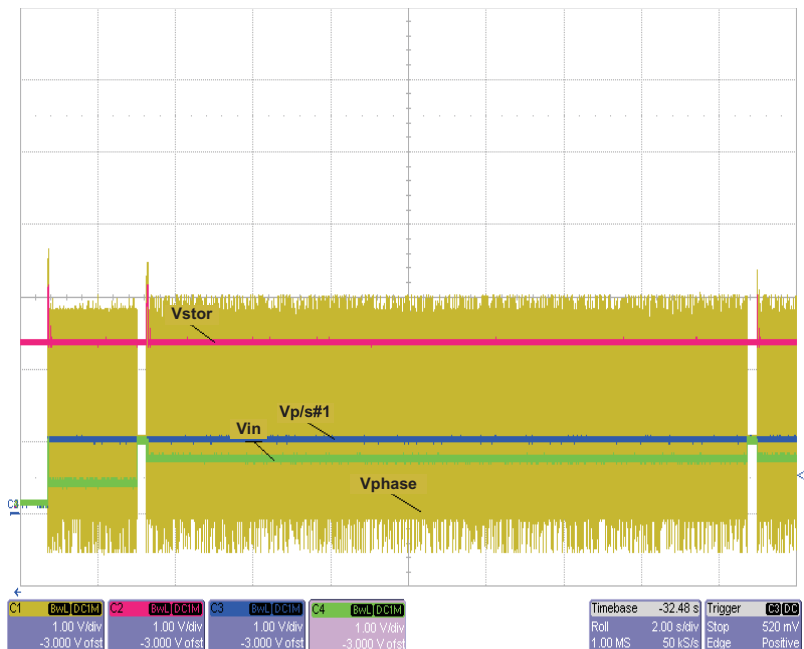

Figure 4. Powering up with a Battery above UV
2. Set PS#1 to 1VDC and hot plug to input with 10Ω series resistor, see Figure 4.
Note in Figure 4 that the BAT FET is on and the STOR output is powered prior to the input being applied. This means the converter will start up in normal boost mode and after doing its initial sampling will regulate  $V_{IN}$  to the MPPT threshold.